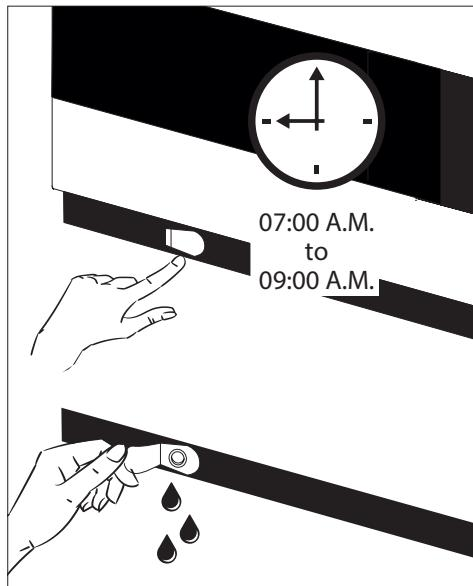

fig. 9
1. Disconnect the power supply by switching off the ON/OFF button. Important! ONLY switch off the power supply of the freezer compartment. (See fig. 9)